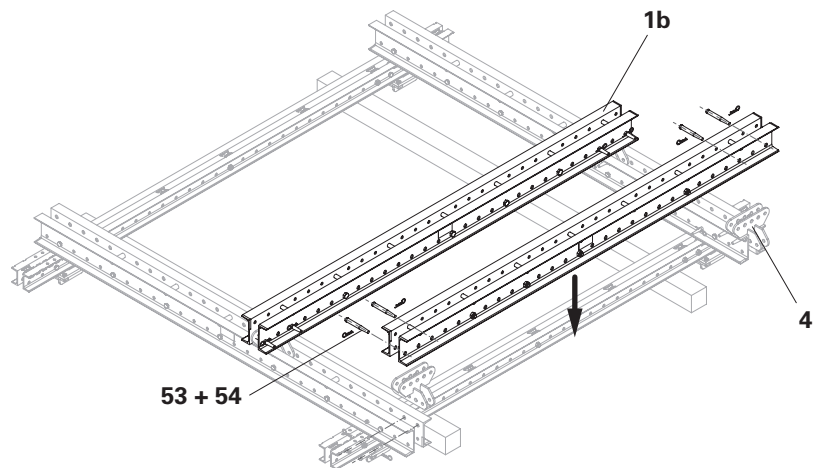

Fig. B2.07
4. Fasten the Climbing Rail RCS (**1b**) with fitting pin \varnothing 26 x 120 (**53**) and secure with cotter pin 5/1 (**54**). (Fig. B2.07 + B2.08)